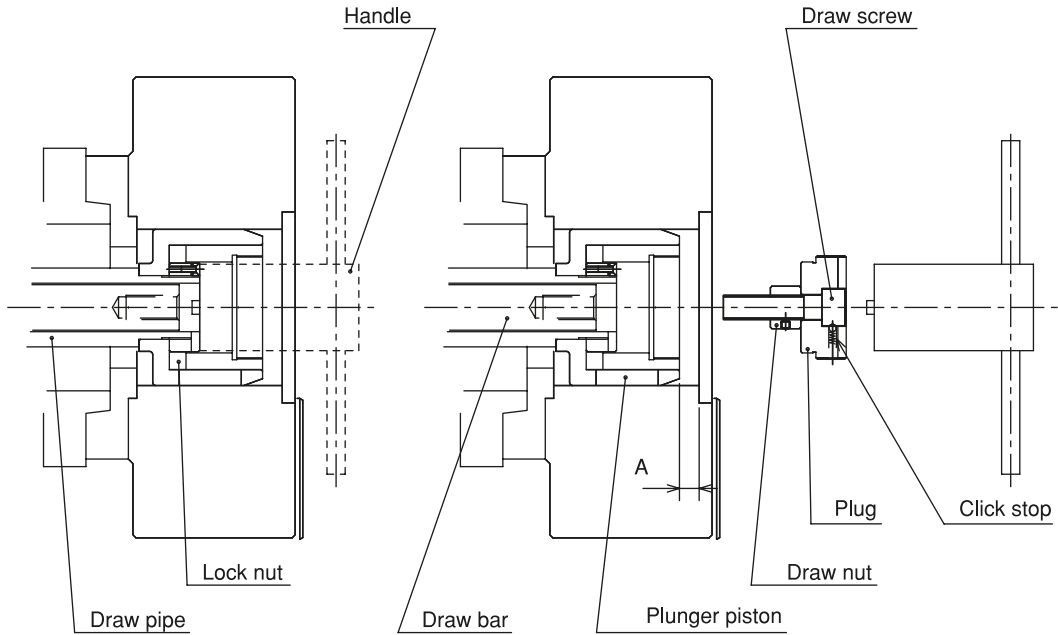

Fig.19
- The appropriate position of the wedge plunger at the cylinder forward end is the position when the dimension A in Fig.19 becomes as shown in the table below.